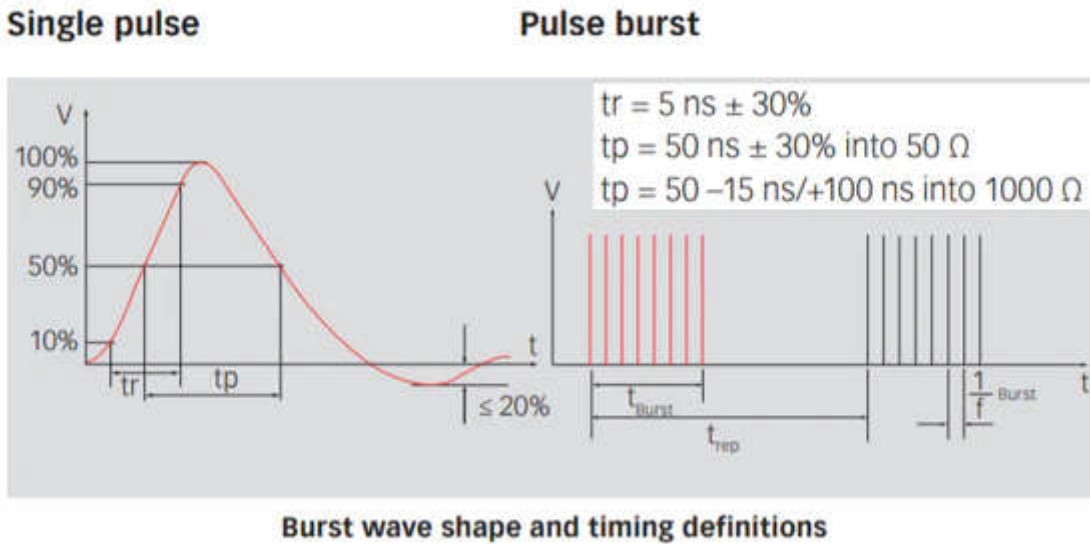
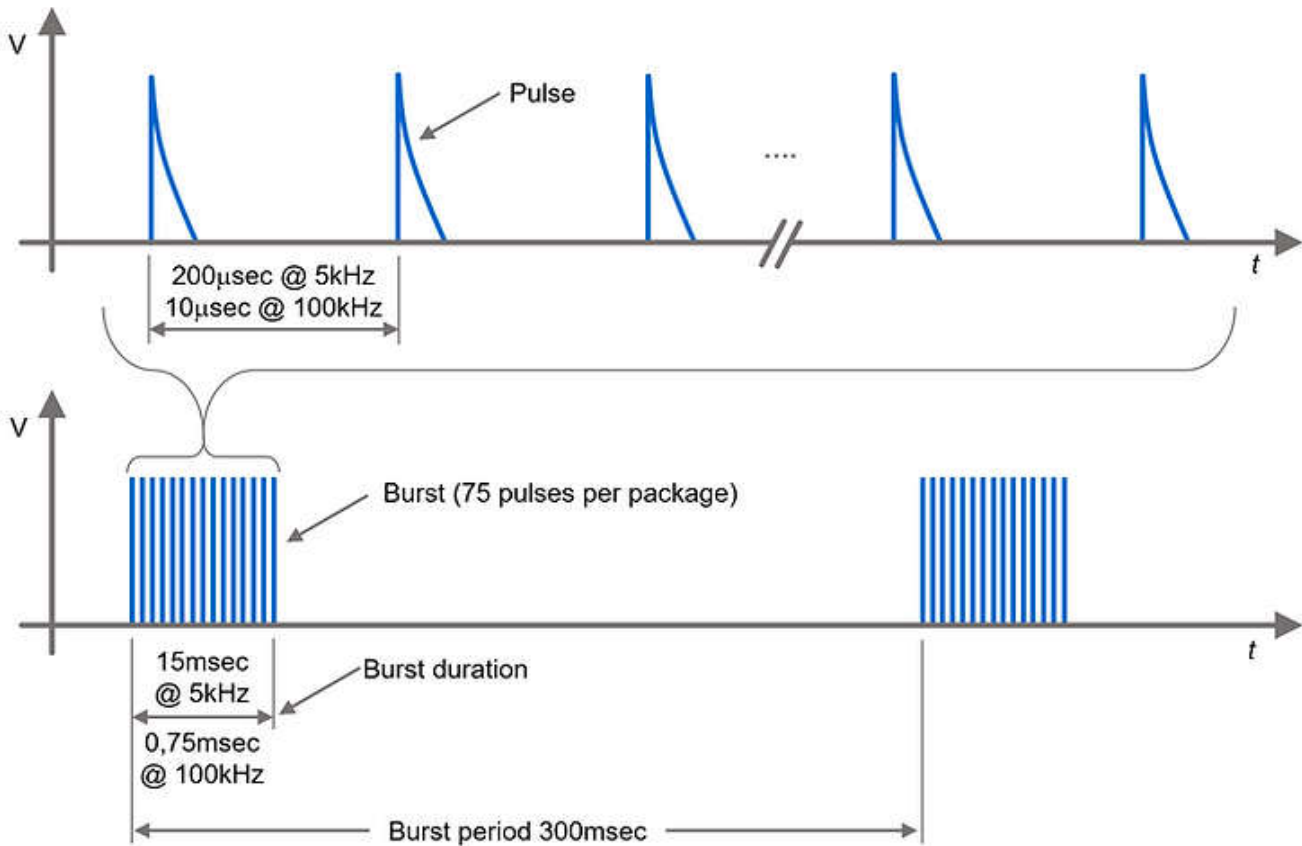

Figure 1-2. Burst Wave Shape and Timing Definitions
Figure 1-3. Test Repetition Times
Typical characteristics of EFT burst testing including peak voltage amplitudes, test levels, burst wave shape and timing definitions, and testing repetition times are shown in the figures below (Table 1-1, Figure 1-2, and Figure 1-3).
- First, find the duty cycle of the EFT Burst signals (Figure 1-2 and Figure 1-3).
- Time between pulses (TP) = 10us for 100kHz EFT burst or 200us for 5kHz EFT burst test and Pulse Duration (t_p)= 50ns
- Next, find the duty cycle of the EFT Burst signals when sent in the burst packets as outlined in (Figure 1-3) Test Repetition Times.